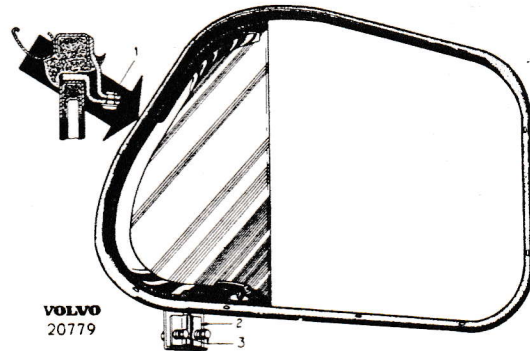

Fig. 27. Ventilation window.
Remove the rivet (1, Fig. 27) which holds the upper side of the ventilation window to the window frame. Loosen both the tension screws (3) and remove the lower cap (2). Lift out the window and the rubber weatherstrip is then accessible for replacement.